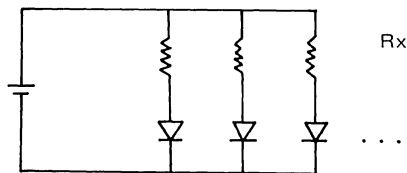

Fig. 1
3.2 In order to operate Liton LED displays under stable conditions. Put protective resistors in series (Fig. 1). Resistor values can be determined by supplying voltage or current for the led display. Recommended current is in the range of forward current 5mA to 20mA.